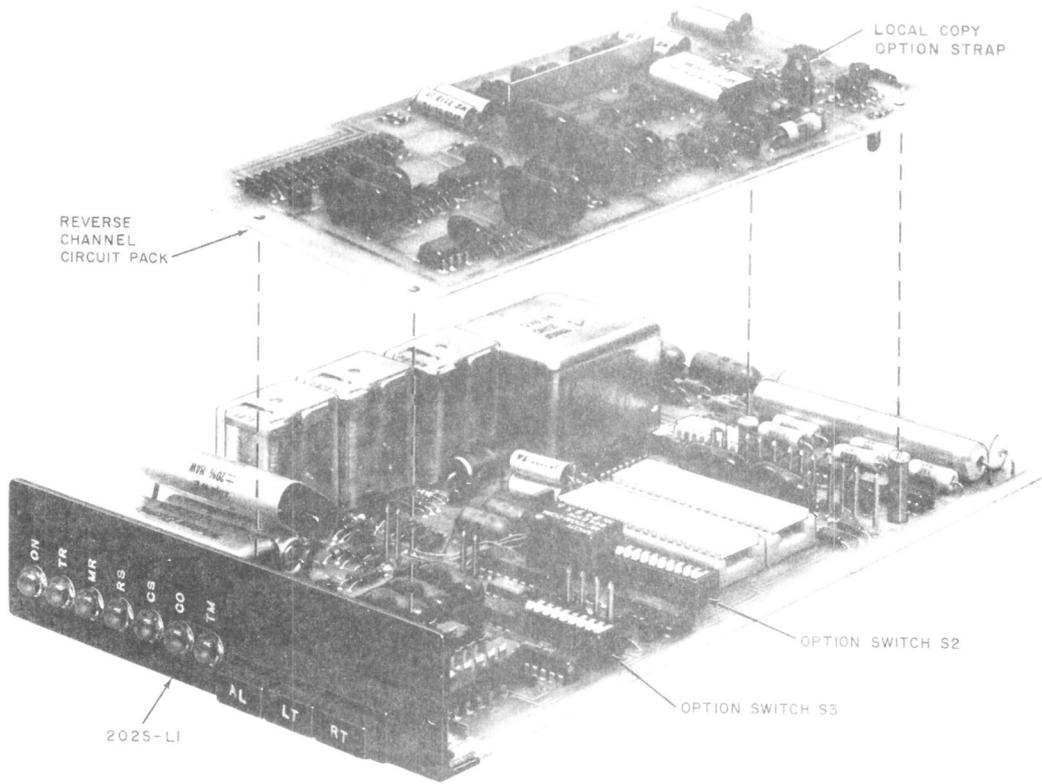

Fig. 5—Data Set 2025-L1/3 (-L1A/3A Is Similar)
C. Data Sets 202S-L1/3 (MD), -L1A/3A (MD), -L1/3A (MD), and -L1C/3B
2.08 These list codes specify the basic data set with the reverse-channel circuit pack installed (Fig. 5 and 6). The reverse-channel circuit pack [JY1 (MD), JY2 (MD) or JY3] is a printed wiring board measuring 2.54 cm high by 8.6 cm wide by 19 cm long (1 in. by 3.4 in. by 7.5 in.). It includes filters, switching circuits, and demodulator circuits needed to perform the reverse-channel function. Interconnection to the data set is via 20 female contact receptacles mounted on the bottom of the board which mate with the contact posts on the data set. Four retaining screws secure the circuit packs together mechanically. The screws are stored in threaded eyelets on the front edge of the circuit pack.